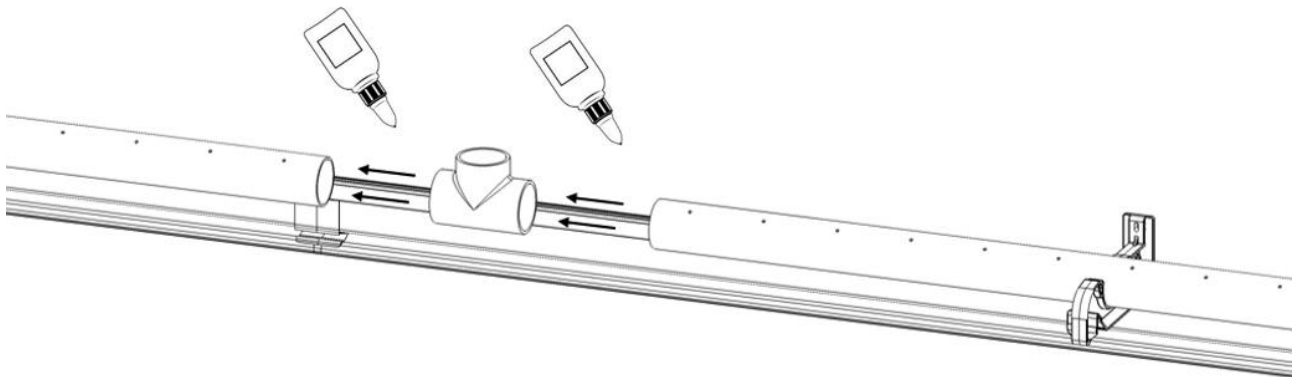

Figure 26
For Central mount water distribution, foresee the positioning of the TEE 90° Ø63 [ref. 28] component at the centre of the system. See Figure 26. Secure it properly (glue must be provided by the customer) right in correspondence with Supply Unit Connection Bracket.